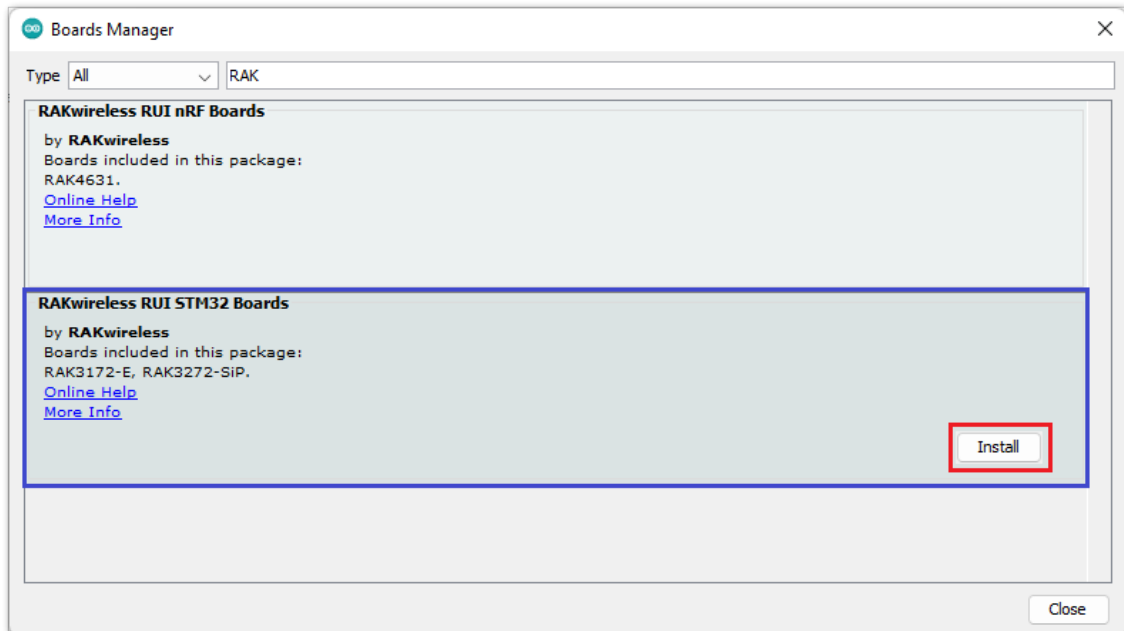

Figure 8: Installing RAKwireless RUI STM32 Boards
6. Write **RAK** in the search bar, as shown in **Figure 8**. This will show the available RAKwireless module boards that you can add to your Arduino Board list.